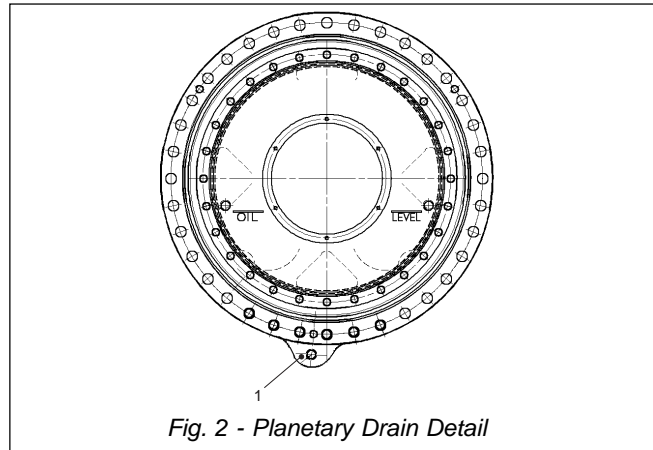

Fig. 2 - Planetary Drain Detail
3. With a suitable container in position, remove drain plug from drain port on wheel (1, Fig. 2) and drain all lubricant from the planetary assembly.
4. Remove bolts (13) and cover (22) from carrier cover (28). Remove and discard 'O' ring (31).
5. Pull sun gear (24), snap ring (36) and axle shaft (43) assembly from the planetary housing. Remove snap ring (36) from axle shaft (43) and remove sun gear (24) from axle shaft (43).